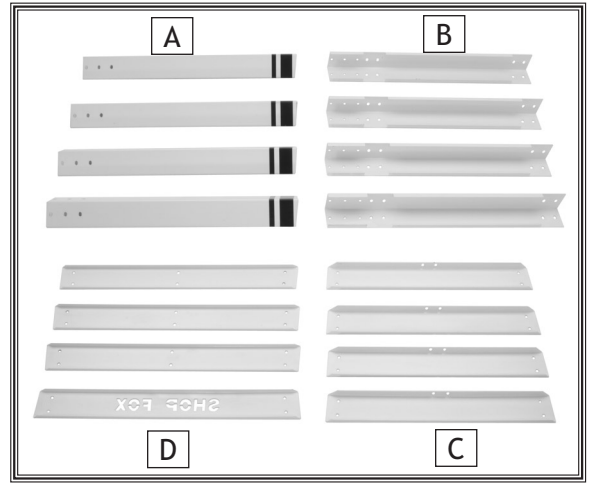

Figure 11. Stand box contents.
- Stand Box Contents (Figure 11):**